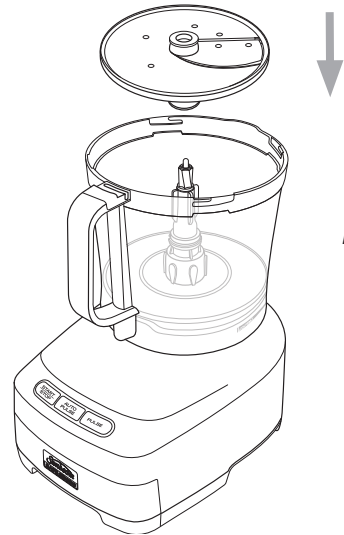

Fig 7
2. Fit the slicing disc over the spindle and press firmly into place, see figure 7.